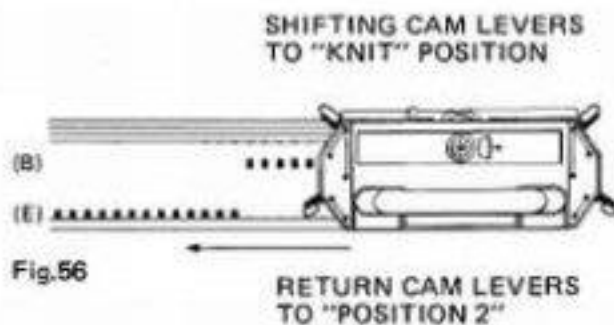

Fig.56
- (a) Push back the shifting cam levers to "KNIT" position and also the return cam levers to "Position 2" on each side. (Fig.56)
- (b) At the opposite end to the carriage, keep the fabric back against the sinker plate and at the same time bring forward into holding position (E) from working position (B) the number of needles not required for the increase. (Fig.56) Knit one row.